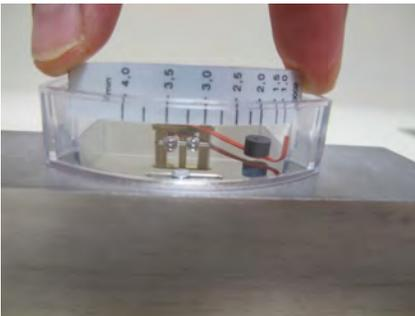

Fig. 64
- 15.** Slide the scale holder (with the affixed scale) into the guide of the plastic housing. (Fig. 64). Note direction of flow (lower scale value toward the input side of the device).